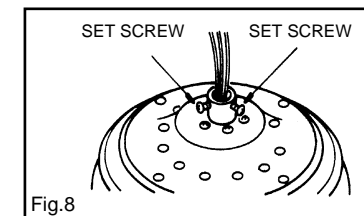

Fig.8
**Step 4.** Loosen the two Set Screws from the coupling. (Fig. 8)